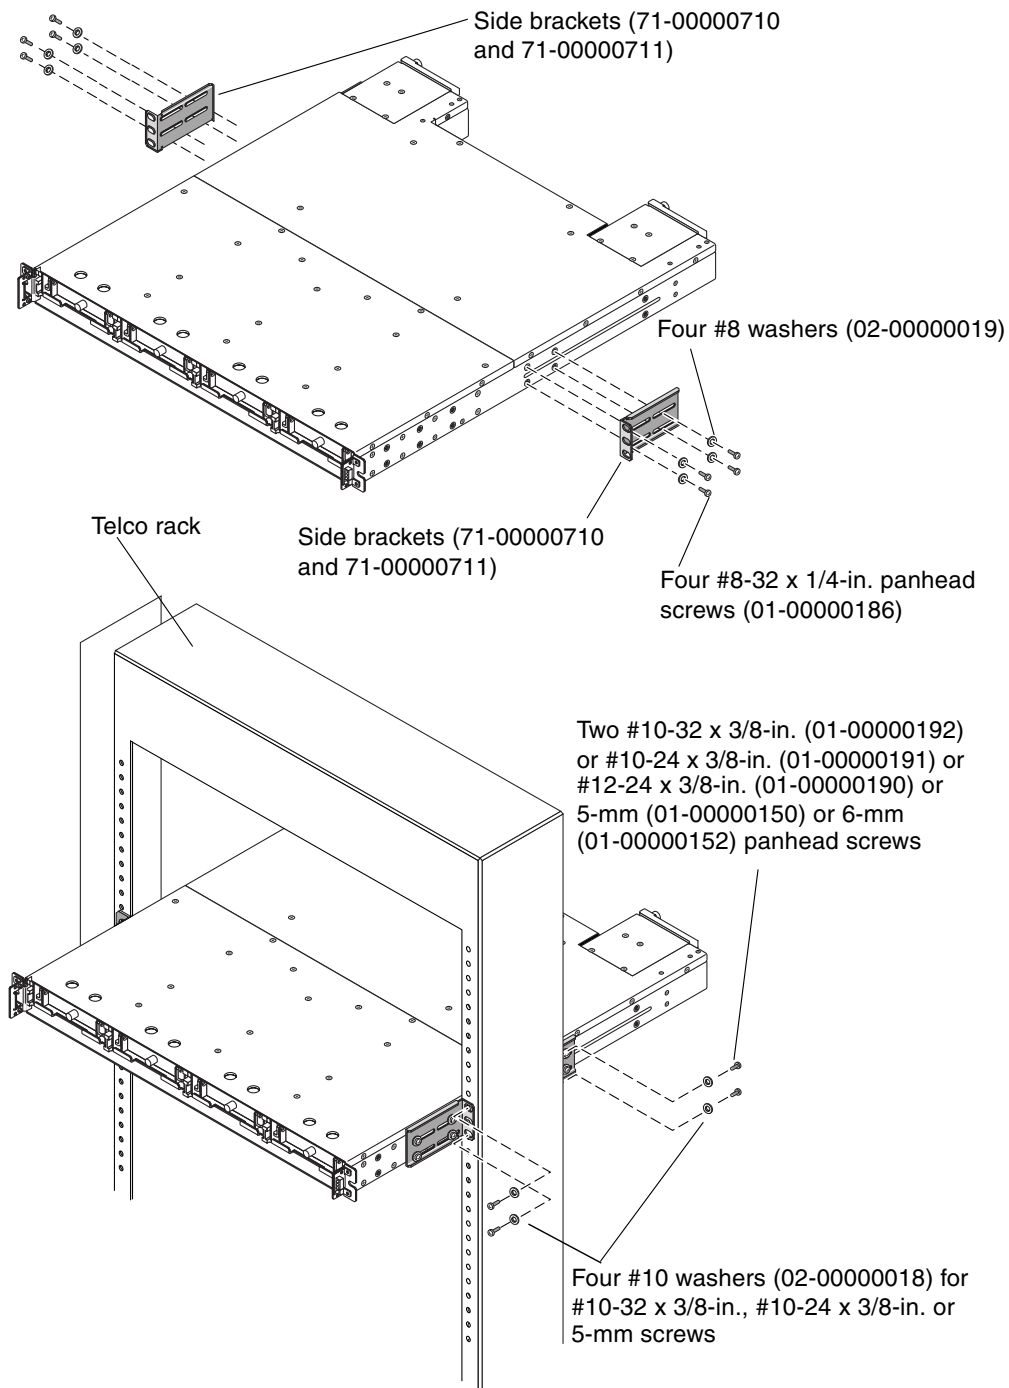

FIGURE 3-3 Center-of-Gravity Assembly
Perform the following installation steps for a Telco center-of-gravity rack configuration (see FIGURE 3-3).
5. Attach the chassis to the Telco rack, by inserting eight or more screws through the mounting holes located on both sides of the brackets and into the frame. (See FIGURE 3-3.)